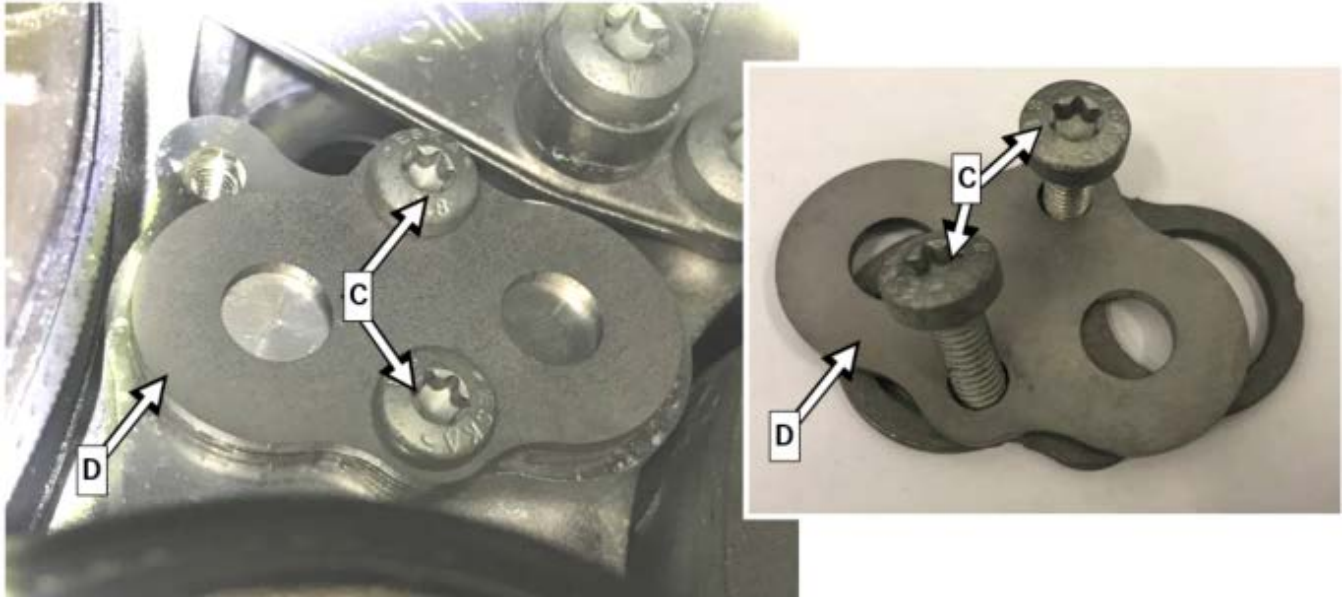

Figure 3
5. Unscrew screws (C, Figure 3), attach new additional retaining plate (D, Figure 3), and tighten using screws (C, Figure 3).